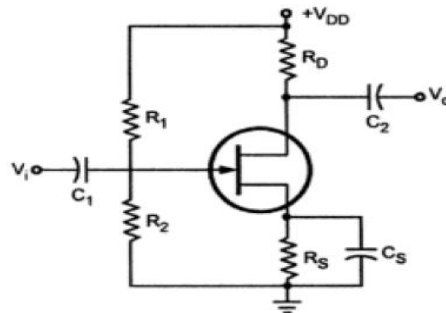

Fig. 4.10 Voltage Divider Bias Circuit
- The Fig. 4.10 shows n-channel JFET with voltage divider bias.